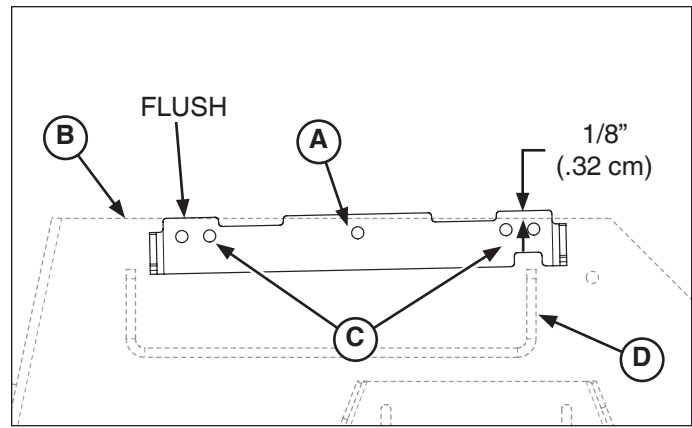

Figure 3. Installing the Bagger Mount Bracket (48" Evolution Models)
1. See Figure 3. Align the bagger mount bracket (**A**, **Figure 3**) so that the front end is flush with the front edge of the deck (**B**) and the back end hangs an 1/8" (.32 cm) over the back edge of the deck. Position the bagger mount bracket so that the leg of the discharge chute bracket (**D**) fits into the notch in the bagger mount bracket.